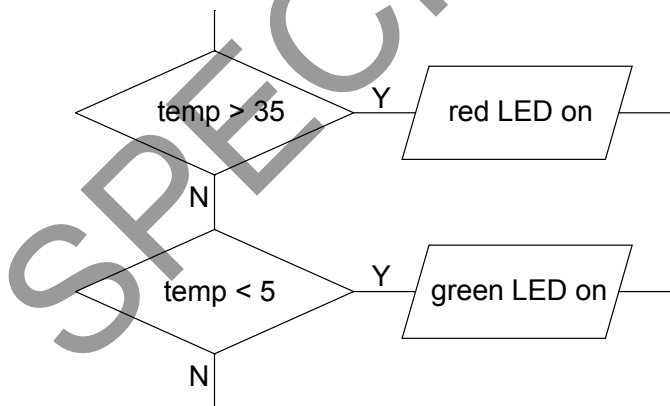

Fig. 4
- (c) A bi-colour LED will be used to indicate when temperatures are too high or too low in the greenhouse. The program flowchart includes the decision boxes shown in Fig. 4.